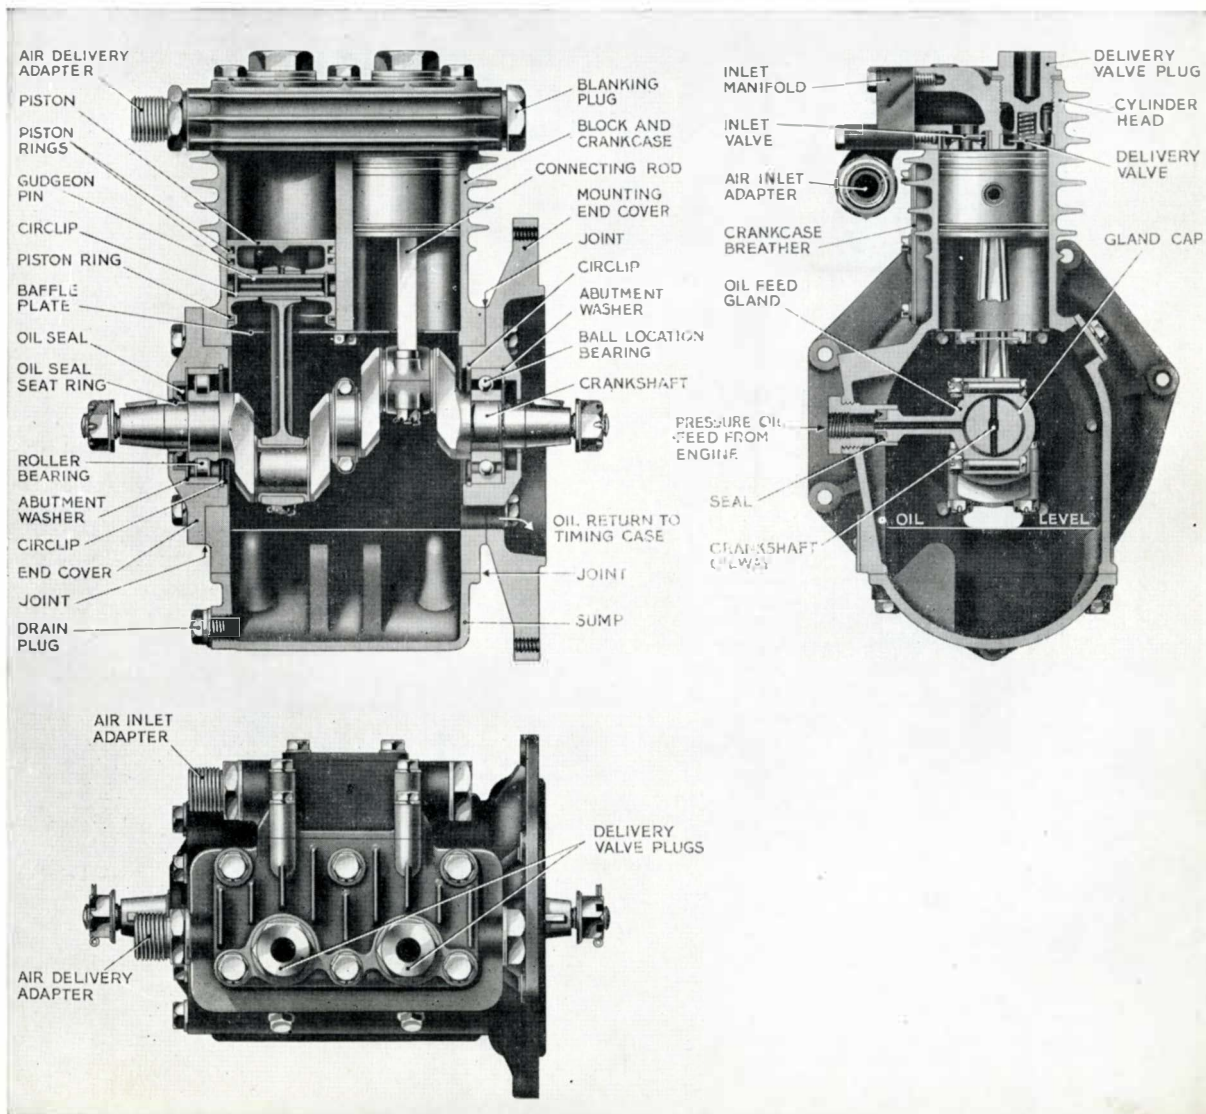

FIG. 83. SECTION THROUGH THE COMPRESSOR
5. Fit the seal housing to compressor crankcase side, taking care not to damage the oil seal when locating the oil-feed gland from the centre journal of the crankshaft, Fig. 83.